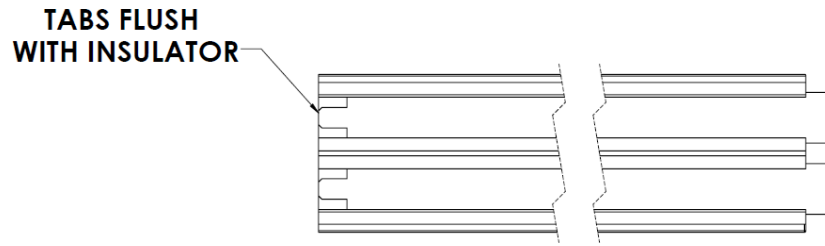

Figure 54: **Male Terminal Tabs Flush with the Plastic Insulator**
- a. Push in the protruding male terminal tabs on the TransStrip so they're flush with the plastic insulator (Figure 54).